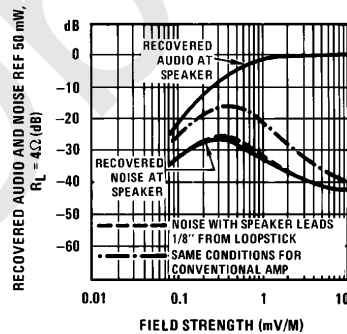

FIGURE 3. Improved AM Sensitivity over Conventional Design
*Figure 3* shows a plot of recovered audio as a function of field strength in  $\mu\text{V}/\text{M}$ . The receiver section in this example is an LM3820. The power amplifier is located about two inches from the loopstick antenna. Speaker leads run parallel to the loopstick and are  $1/8$  inch from it. Referenced to a 20 dB S/N ratio, the improvement in noise performance over conventional designs is about 10 dB. This corresponds to an increase in usable sensitivity of about 8.5 dB.